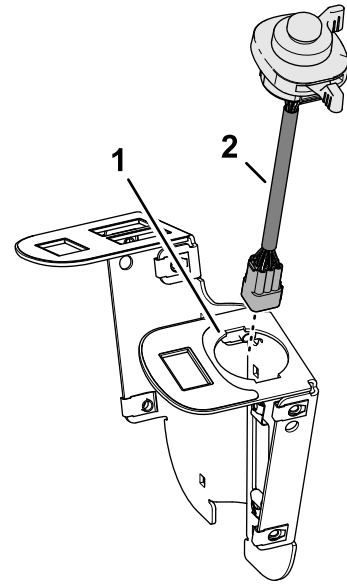

Figure 27
2. Insert the multi-function switch into the 100 mm (2 inch) hole in the switch mount as shown in Figure 27.